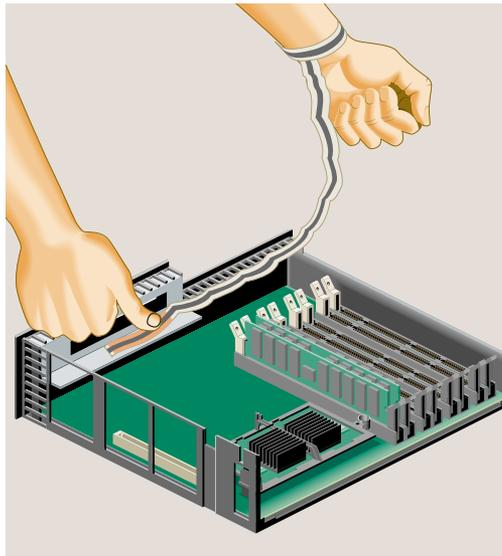

Figure 2-48 Attaching the Wrist Strap
3. Before touching any of the components, ground yourself to a metal part of the chassis with a wrist strap (Figure 2-48).